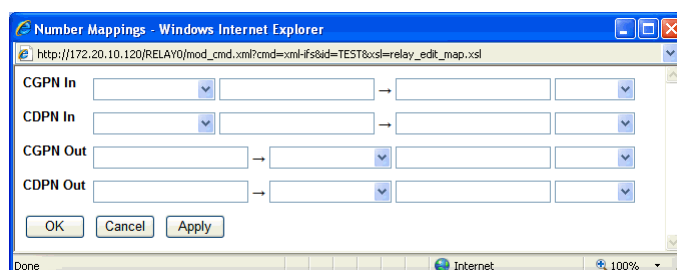

Figure 42. Call number mapping for SIP interfaces
- 4 On each mapping line, a *Call Number Type* can be selected from the *Call Number Type* drop-down list (found on the righthand side of the lines in Figure 42).
- 5 On each mapping line, a *Call Number Format* can be selected from the *Call Number Format* drop-down list (found on the lefthand side of the lines in Figure 42).